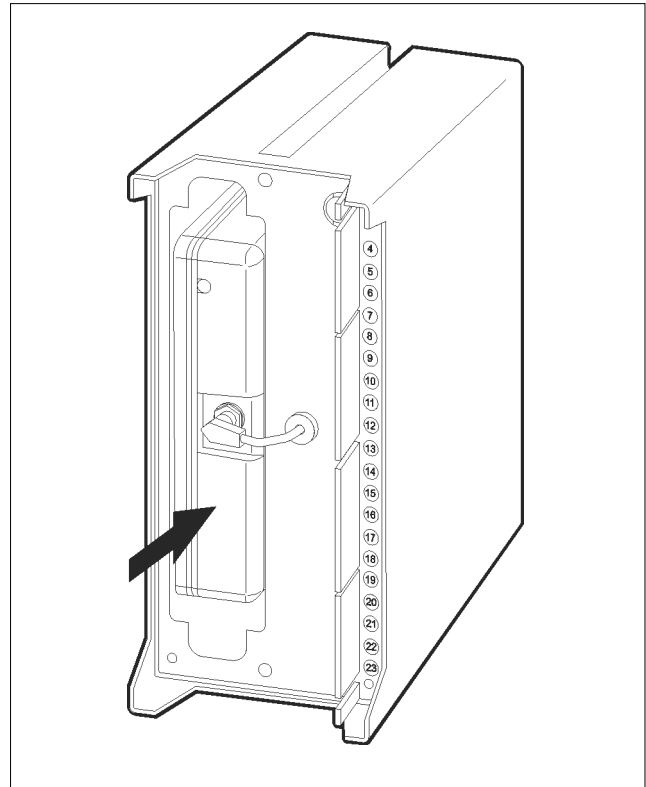

FIG. 3 Installing a plug-in flame current amplifier
- 1 Plug the selected amplifier into the back of the R4348 (see fig. 3).